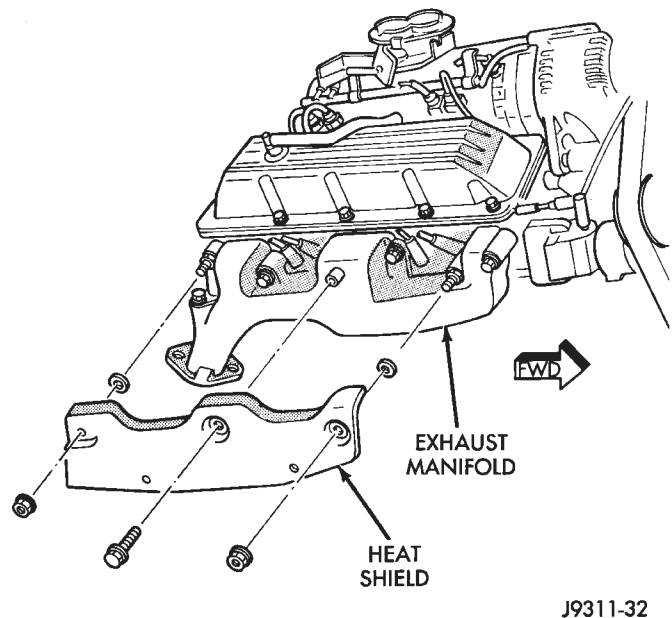

Fig. 12 Exhaust Manifold Heat Shields (Left Shield Shown)
- (1) Disconnect the negative cable from the battery.
- (2) Remove the exhaust manifold heat shields (Fig. 12).